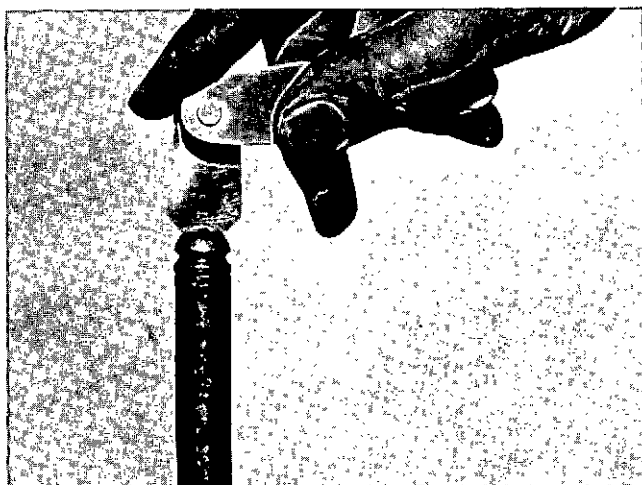
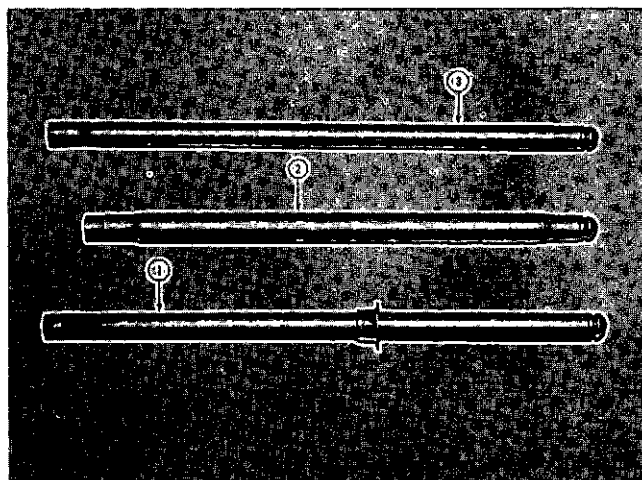

Fig. 3-2-1, N20309. Checking push tube ball end with radius gauge
Fig. 3-2-2, V40309. Push tubes
2. Check injector and valve push tube ball end for wear with radius gauge. Fig. 3-2-1. Ball end diameter, intake (1, Fig. 3-2-2), injector (2) and exhaust push tube (3) is 0.623 to 0.625 inch [15.8242 to 15.8750 mm].